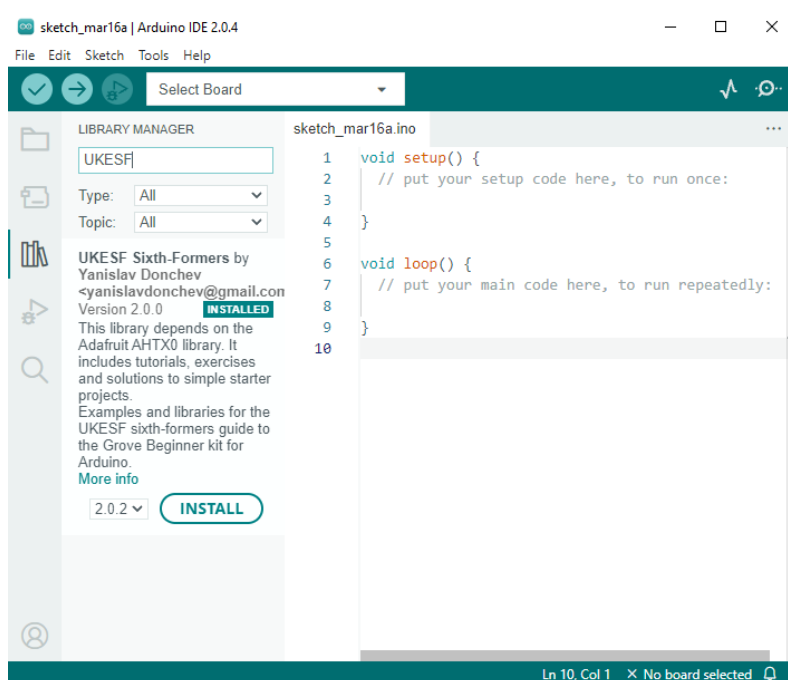

Figure 6. The Library Manager window.
- Type in *UKESF Sixth-Formers* and click **Install** as shown in Figure 6 (Make sure to install the **latest version** possible which may differ from the one in the figure below).